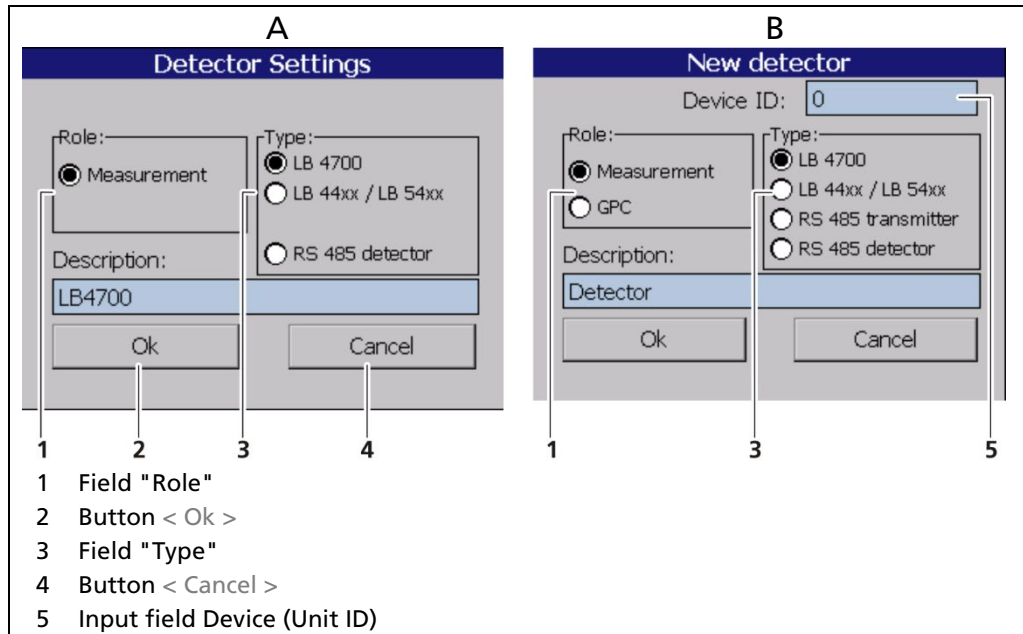

Fig. 54 Detector Settings
3. Set the appropriate function for each detector (Fig. 54).